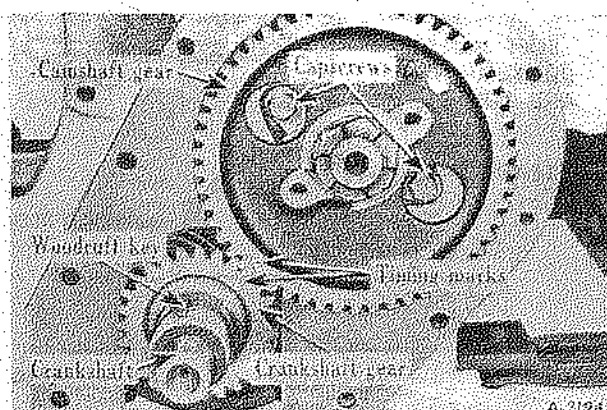

Fig. 52
Install the dial indicator as in Fig. 52 securely to the crankshaft, and check the alignment by slowly revolving the crankshaft and observing the dial. Total indicator reading must not exceed .010".
**INSTALL CAMSHAFT AND GEAR.** Coat camshaft with engine oil. Insert camshaft into front end of engine block, being careful not to damage camshaft bearings. Before completely entering camshaft, rotate shaft until marked teeth on crankshaft gear and camshaft gear index (Fig. 52). Install two capscrews and lockwashers in camshaft thrust flange, working through large holes in camshaft gear. Rotate crankshaft and camshaft to establish that the gears do not bind or interfere. Backlash must be from .004" to .007".